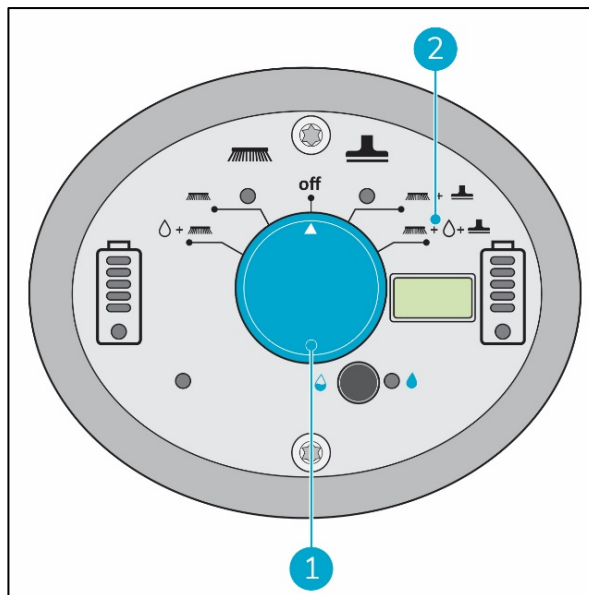

Figure 22
2. Use the i-mop® XXL pro main switch (Figure 22, pos 1) and choose MODE 4 Brush + Water/Cleaning solution + Dry vacuum (Figure 22, pos 2).